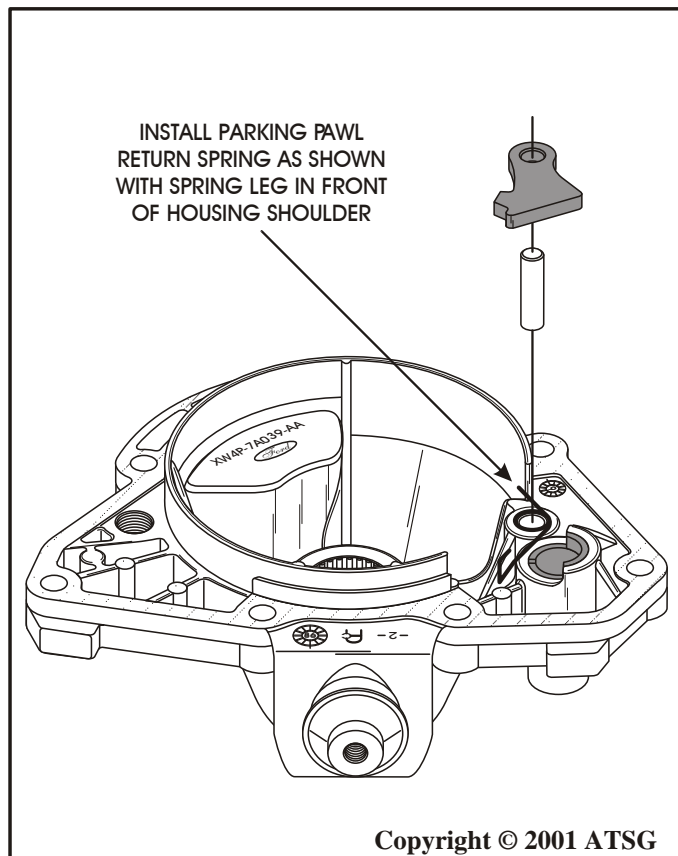

Figure 136
5. Install the parking pawl return spring onto the extension housing, with the leg of the return spring in front of housing shoulder, as shown in Figure 136.